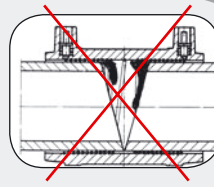

Fig. 1
- 1 Pre-assembly of tubes. Cut the tube at the right angle to its axis using a plastic cutting machine equipped with a perpendicular position controller or a PE tube cutter. Incorrect tube cut may result in heater exposition, which will cause overheating and burrs during fusing. (Fig. 1)